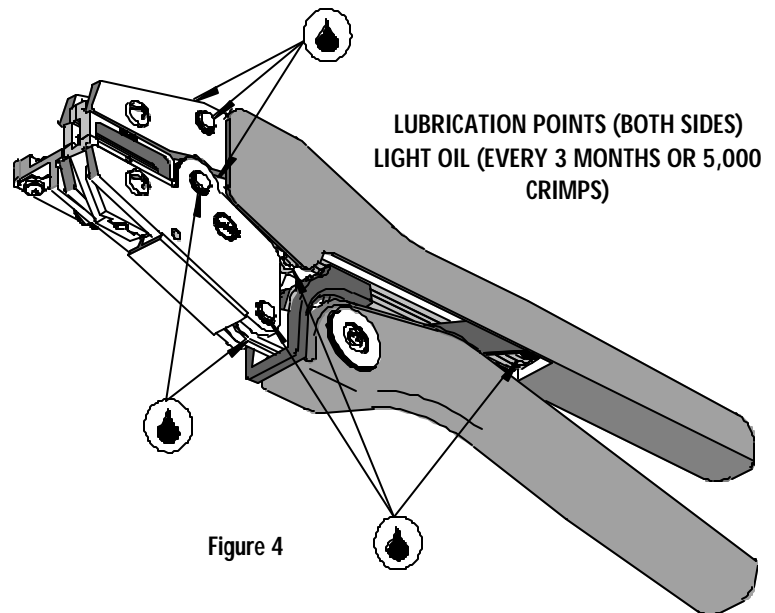

Figure 4
3. Make certain all pin, pivot points and bearing surfaces are protected with a thin coat of high quality machine oil. Do not oil excessively. The 64001-1000 (RHT-5758-CC) was engineered for durability, but like any fine piece of equipment it needs cleaning and lubrication for a maximum service life of trouble-free crimping. A light oil, such as 30 weight automotive oil used at the oil points shown in Figure 4, every 5,000 crimps or 3 months will significantly enhance the tool life and ensure a stable calibration.